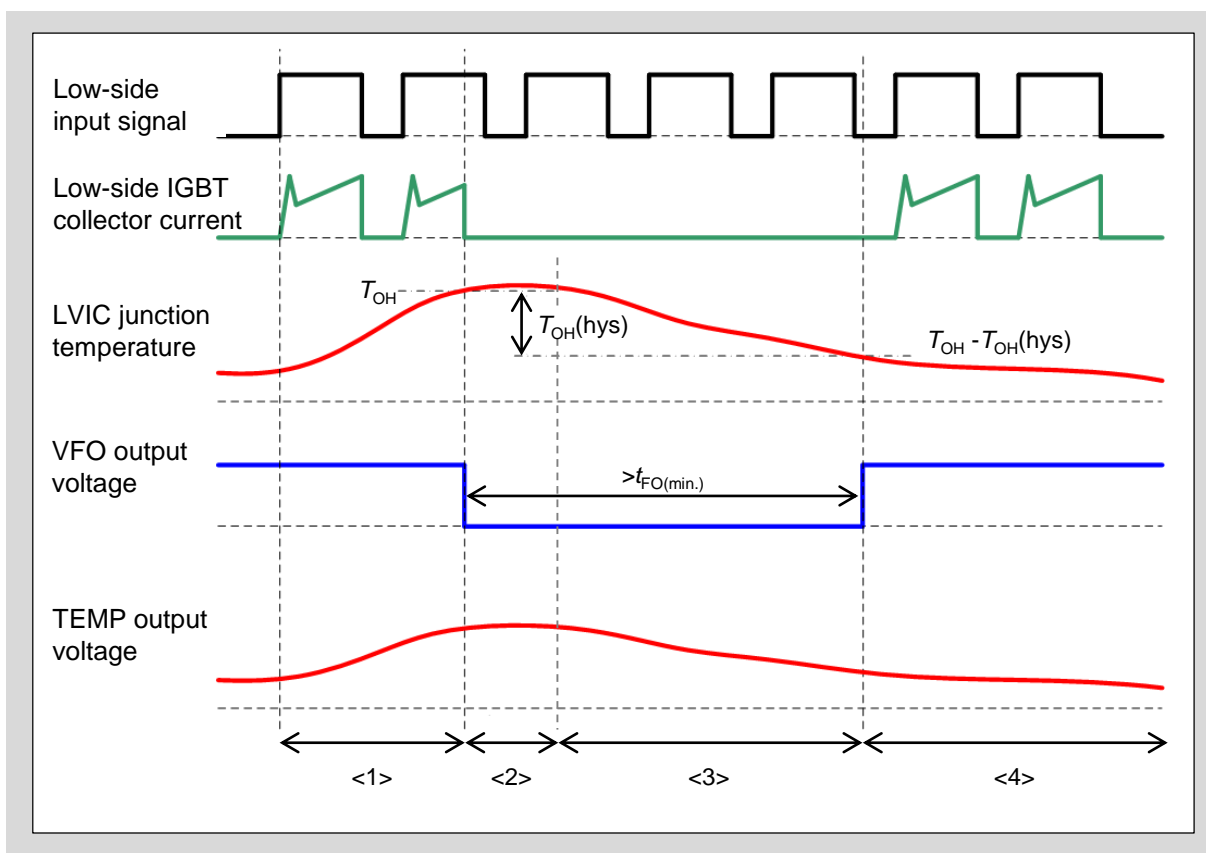

Fig. 3-27 OH protection operation sequence
- As shown in Fig.3-27, the product shuts down all low side IGBTs when the LVIC temperature exceeds T_{OH} . The fault status is reset when the LVIC temperature drops below $T_{OH} - T_{OH(hys)}$.